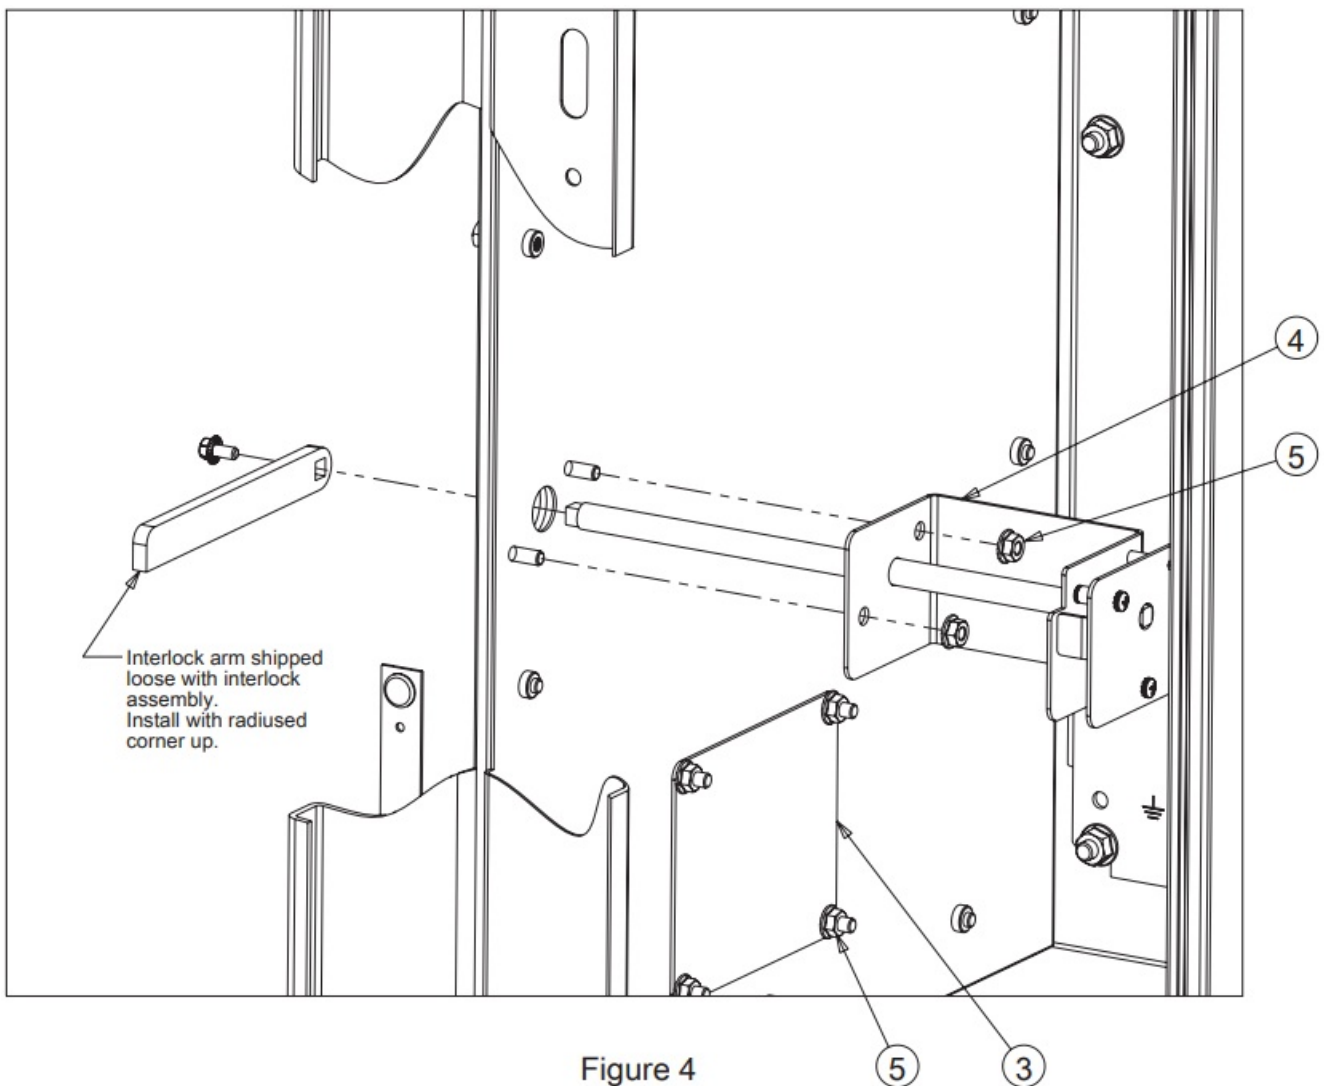

Figure 4
7. Referring to Figure 4, with the interlock arm removed, install the control enclosure interlock (Item 4) with the shaft passing through the hole in the Sequestr enclosure and into the control enclosure. Secure the door stop with two M6 lock nuts (Item 5).